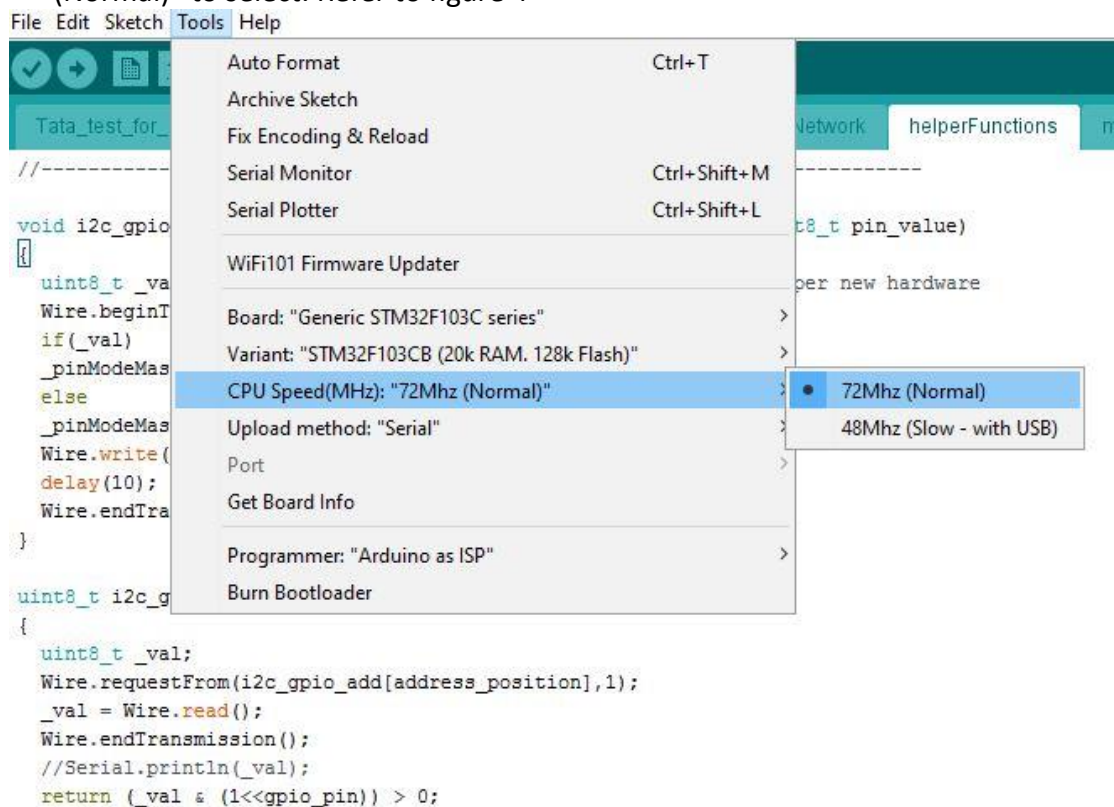

Figure 4: CPU Speed selection
- Click on tools tab, move mouse pointer to “CPU Speed(Mhz): xxxx”, under this click on “72Mhz (Normal)” to select. Refer to figure 4